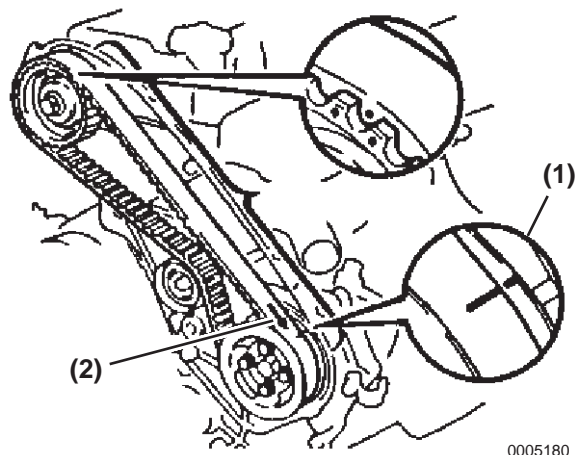

Figure 5-181
- When reusing the timing belt, install the timing belt by aligning the mark **(Figure 5-181, (1))** marked before removal and the arrow mark **(Figure 5-181, (2))** to the engine revolution direction.